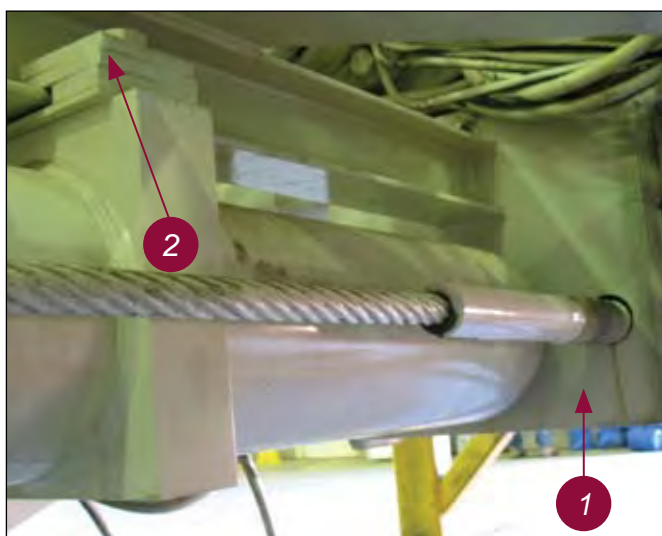

Fig. 6-2 Hoist/Pulldown Cylinder - lower end
1. Protect the chrome surface of the exposed cylinder rods by wrapping with cloth or several layers of paper. Wrap the threaded ends of the cylinder rods with tape to protect threads from damage. With cylinder rods centred (equal length of rod exposed on both ends of cylinder body), lift cylinder barrel (do not lift by the cylinder rods) and position under mast with the lower cylinder guide mounts toward bottom of mast (fig. 6-2).